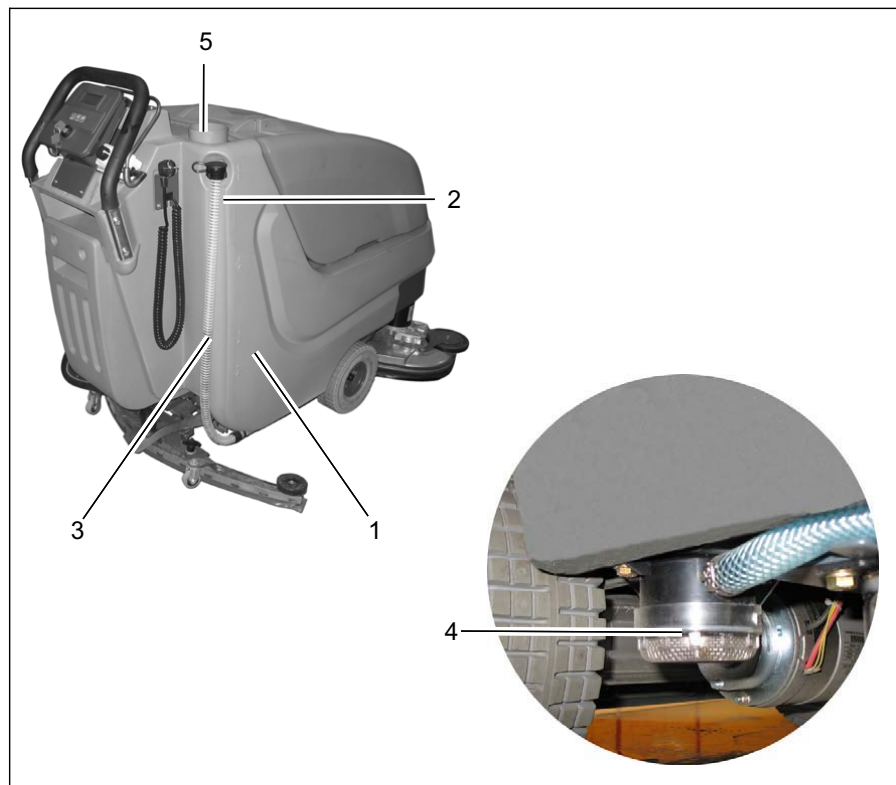

Fig.7
Fill solution tank (Fig. 7/1) before work or as required. Park vehicle on level ground. Open tank lid (Fig. 7/5) and fill tank up to the maximum (1/1 marker) (Fig. 7/2).
Alternatively, filling of the machine via quick coupling (Fig. 7/6) is available. Before doing so, connect the filling hose of the dosage unit and the quick coupling. The floater valve automatically closes after the maximum filling level has been attained.
Park vehicle such that the fill level hose (Fig. 7/3) is located above the drain aperture in the floor. Take fill level hose from holder and remove lid.
Check solution filter (Fig. 7/4) at weekly intervals and clean or replace if required.
1. Empty solution tank (Fig. 7/1), see paragraph 5.5.2.